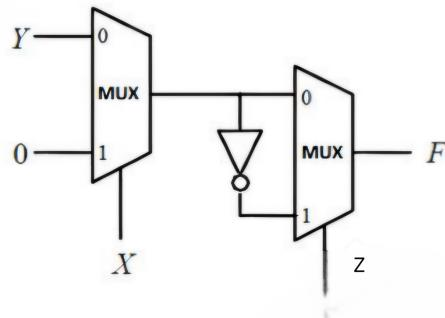

Fig. 4.26
51. Find the logic function implemented by the circuit given below in Fig. 4.26.